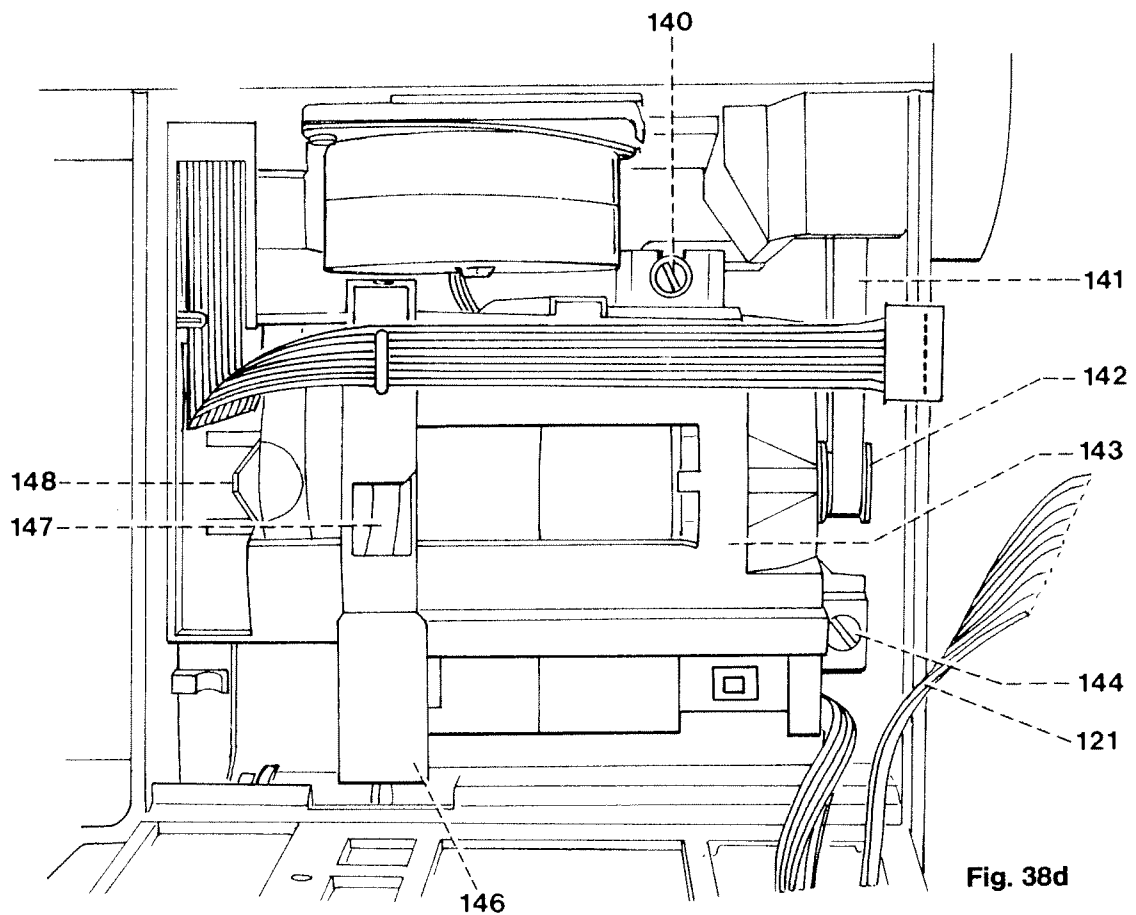

Fig. 38d
- Unscrew right motor retaining screw 144 (Fig. 38d).